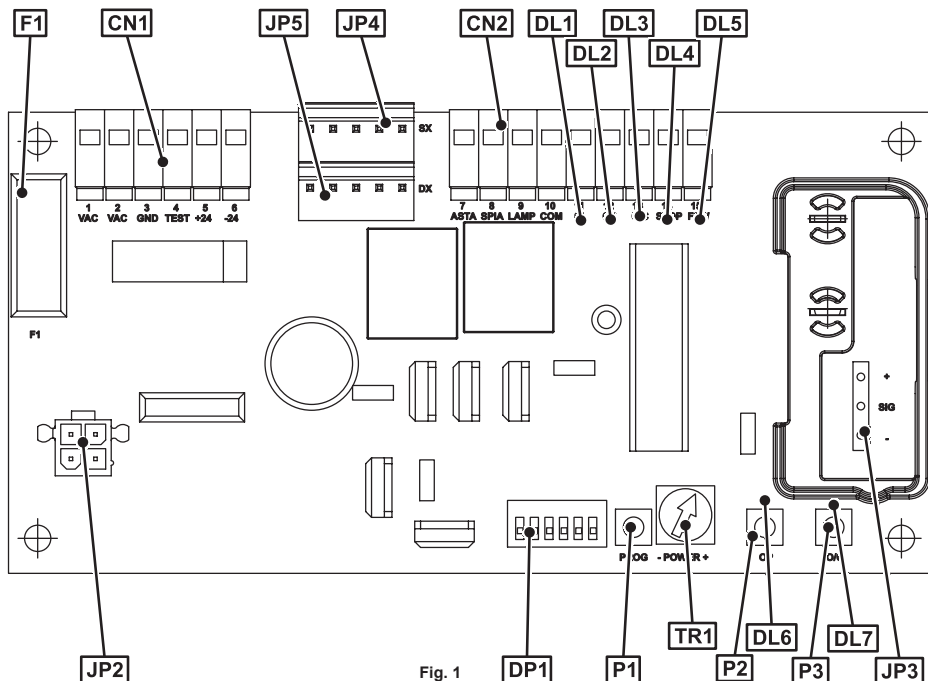

Fig. 1
4. BOARD LAY-OUT (Fig. 1)	page.11
4. BOARD LAY-OUT (Fig. 1)